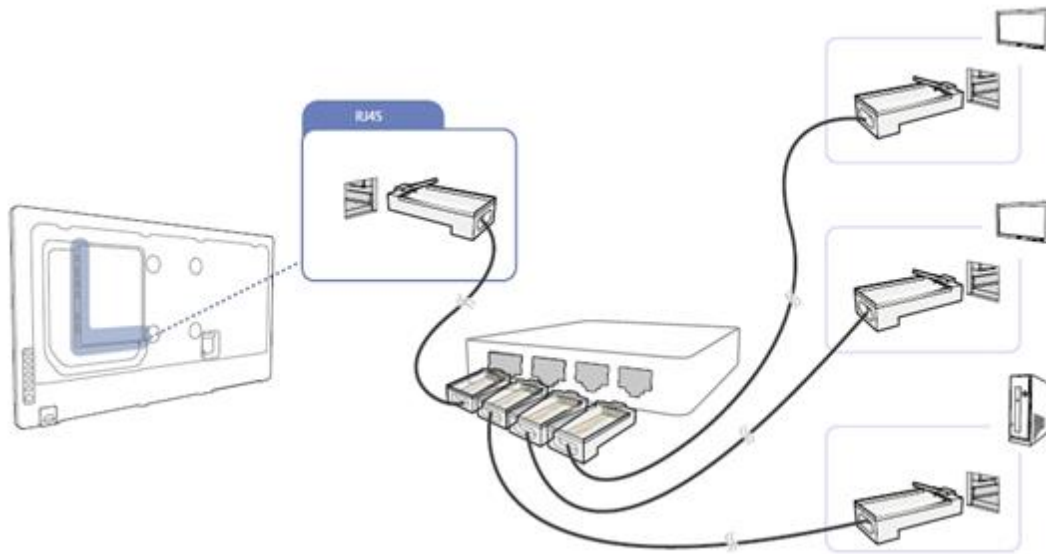

Figure1-2 PC,TV or Monitor connecting method(with RJ45)
- As of Figure 1-2, connect Hub and Personal Computer(using Ethernet).